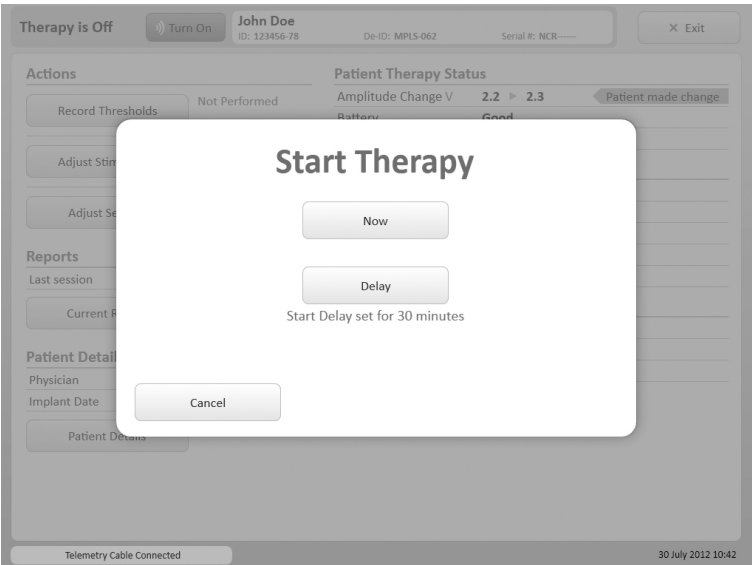

Figure 4-2. Start Therapy Screen
- **Turn On/Turn Off Therapy Button** — Select button to turn stimulation on or off. Turning stimulation on accesses the Start Therapy screen (Figure 4-2), where you may choose to start therapy immediately or postpone until the start delay expires.